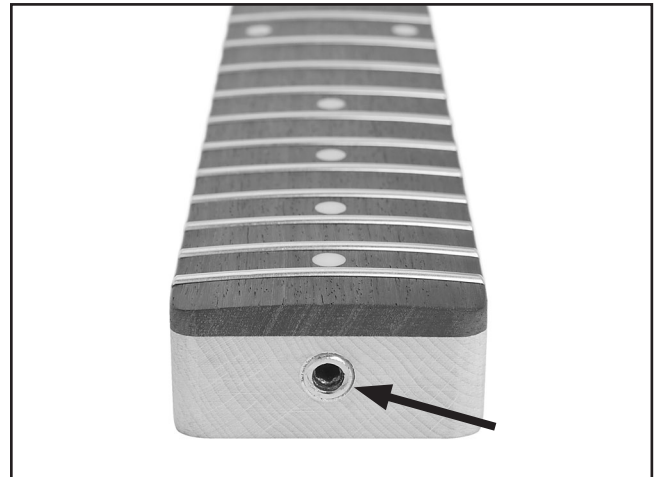

Figure 34. Truss rod nut.
3. Loosen the strings, remove the pick guard and pick guard pickup, and turn the truss rod nut (**Figure 34**) counterclockwise with a 4mm wrench to release tension on the neck. Retighten until the nut begins to grab.